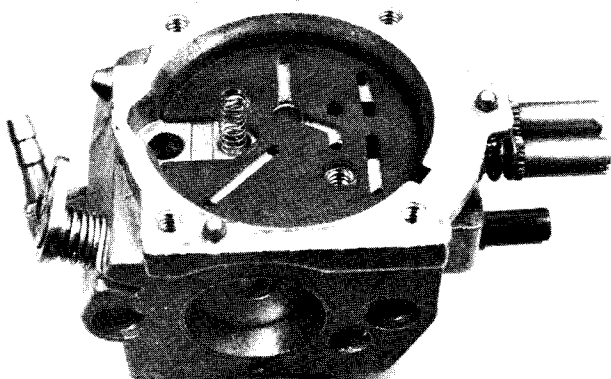

Fig. 57 — Circuit Gasket and Spring Installed
2. Position black circuit gasket and lever spring into place, Fig. 57.